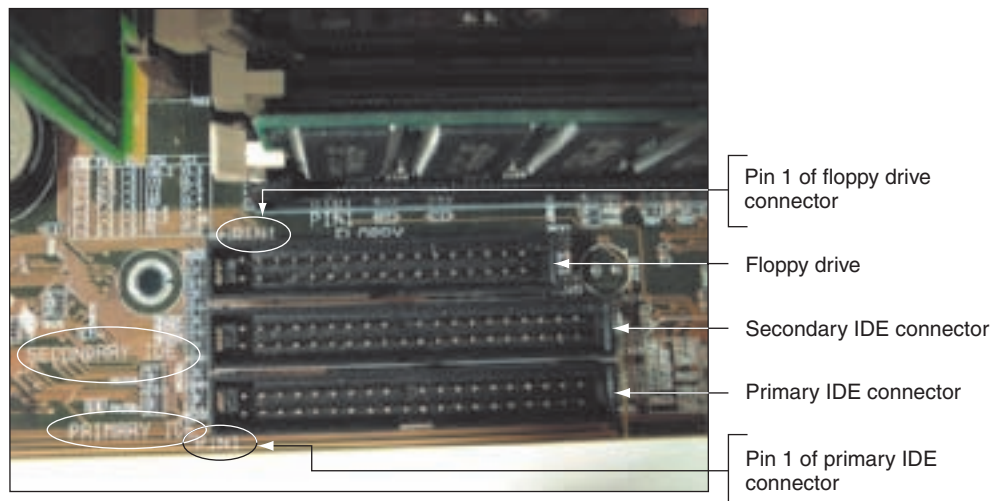

Figure 8-44 Floppy drive and two IDE connectors on the motherboard
6. Next, connect the data cable to the IDE connector on the motherboard (see Figure 8-44). Make certain pin 1 and the edge color on the cable align correctly at both ends of the cable. Normally, pin 1 is closest to the power connection on the drive.